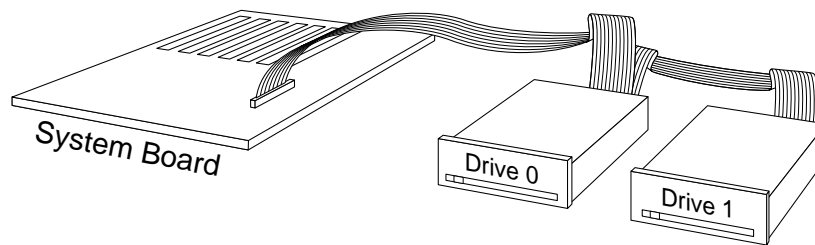

Figure 6. Master and slave drives attached to ATA connector embedded in system board
- If the system motherboard has its own ATA connector, then you can connect the drive interface cable directly to the system motherboard, as shown in Figure 6.